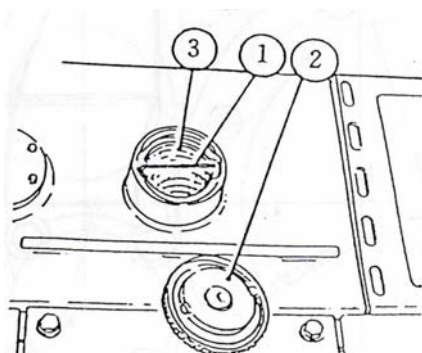

Fig. 48
The oil level is marked on the fuel scale in oil filling hole (Fig. 48/1).
- c. To fill up the tank, open the cab (Fig.48/2) and make sure that the filter screen (Fig.48/3) is in the filling oil hole;
- a. The tank cap (Fig.48/2) and the filter screen (Fig.48/3) should be thoroughly cleaned with kerosene from time to time;